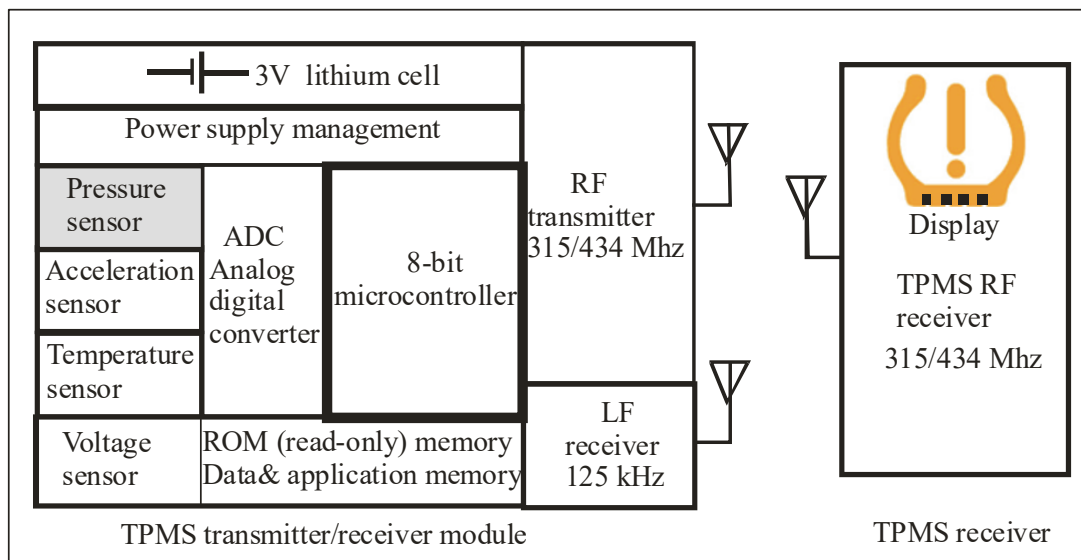

Fig. 6.7. Block diagram of monitoring & control TPMS.
* - LF is low frequency, see text and Fig. 6.7.
The block diagram of monitoring & control TPMS, for instance, SP37 is presented in Fig. 6.7 [6.70, 6.73]. The SP37 measures pressure, radial acceleration, temperature and supply voltage. The pressure range is from 100 up to 450 kPa (0.99 up to 4.44 atm). The Infineon TPMS SP37, is a highly integrated, low consumption energy TPMS sensor, which embeds measurement of pressure and radial acceleration with a low-power microcontroller. A LF receiver and an RF transmitter in a system package are integrated as well. This high integration of the functions allows to build a complete system and, thus, enable system' cost savings. The SP37 inherits its MEMS technology from the acquisition of the Norwegian Sensoror in 2003. The similar structure is TPMS FXTH870x, which history begins from Motorola, was developed in Freescale and at present in NXP.